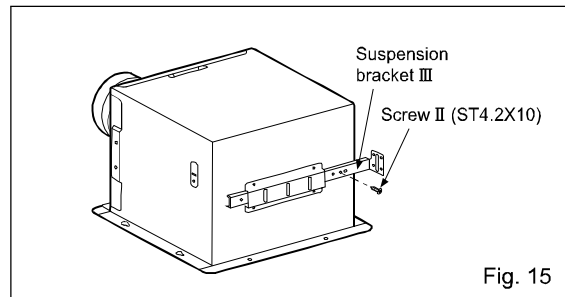

Fig. 15
2. Connect the suspension bracket III to fan body. (Fig. 15)